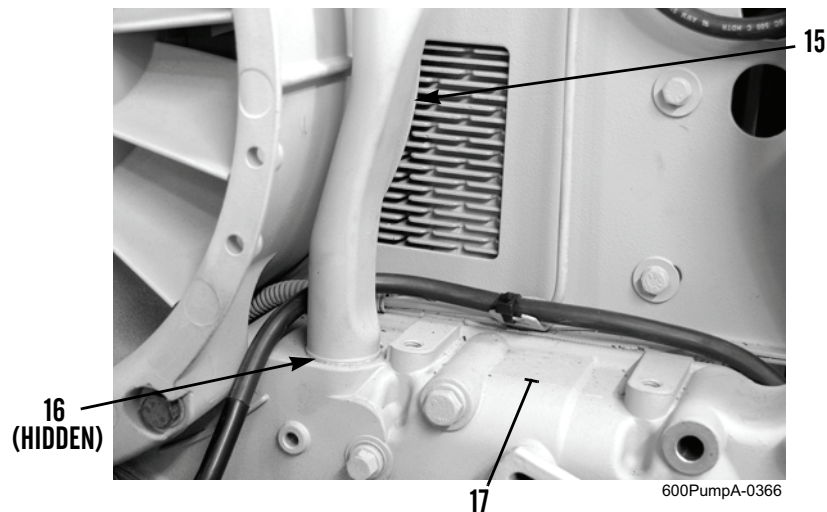

Figure 4. Breather Pipe at Engine Front Cover.
- Assemble two new seals (Figures 4 and 5, Item 16), breather pipe (Figures 4 and 5, Item 15), and breather valve (Figure 4, Item 7) and install breather pipe in engine front cover (Figure 4, Item 17).